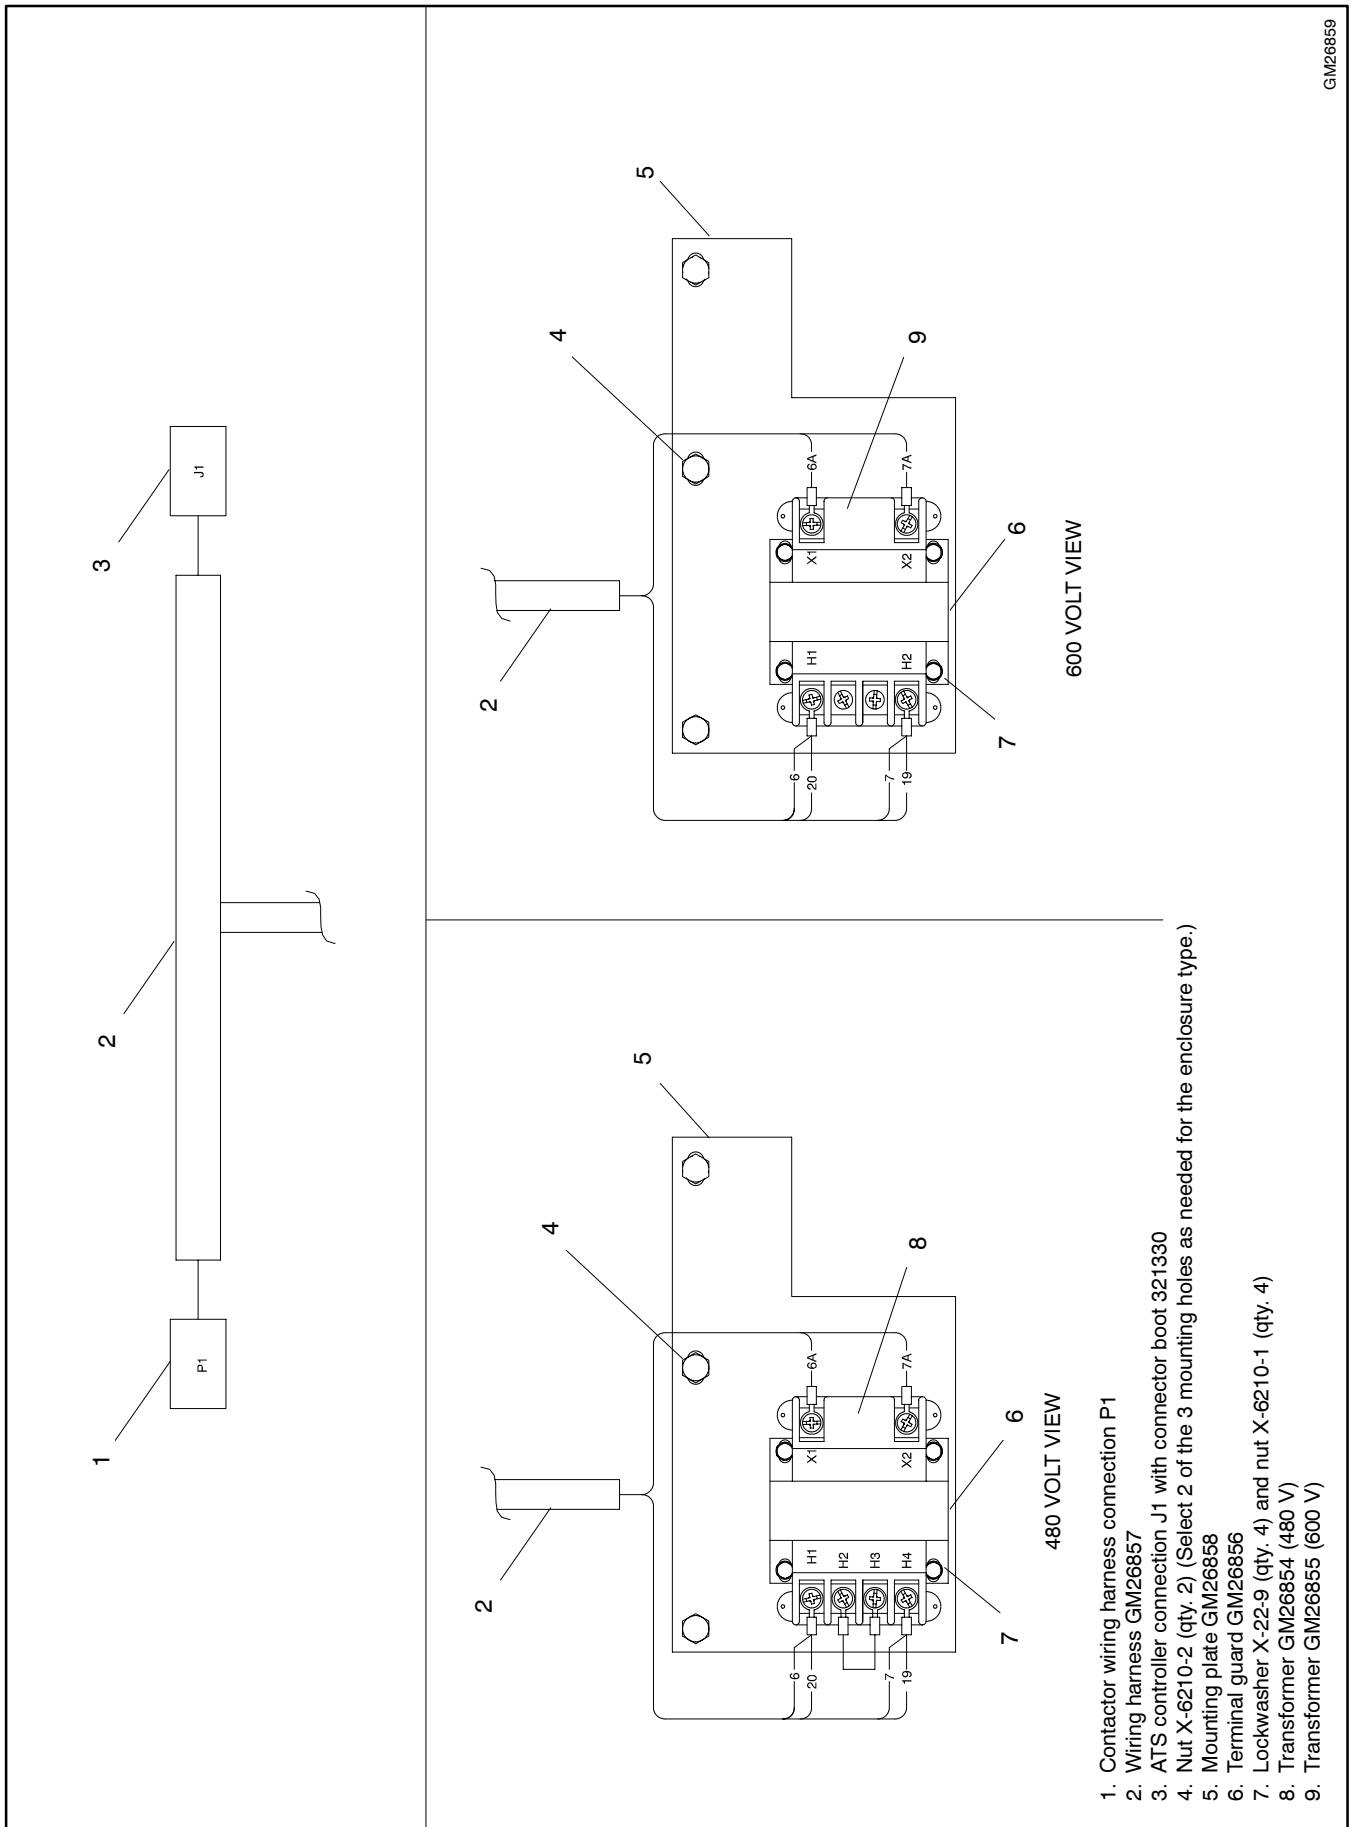
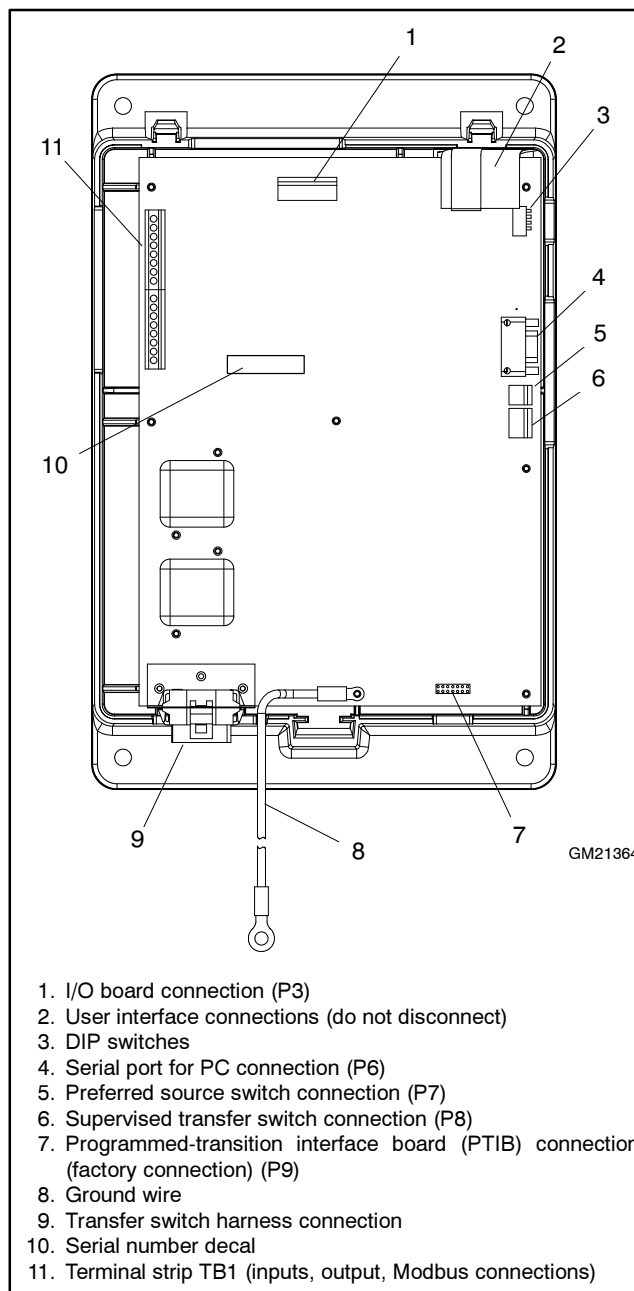

Figure 2 Transformer Assembly with Wiring Harness
Figure 7 Controller Board Component Locations (cover removed)
- 3.1 Attach transformer GM26854 (480 V) or GM26855 (600 V) to mounting panel GM26858 using 4 lockwashers (X-22-9) and 4 nuts (X-6210-1) as shown in Figure 2.
- 3.2 Connect the new wiring harness (GM26857) to the transformer assembly. See Figure 2 and refer to the 480-volt or 600-volt view corresponding to your system.
- 4.5 Disconnect the controller. See Figure 7.
- 5.2 Reconnect the controller using the new wiring harness (GM26857). See Figure 2 and Figure 7.